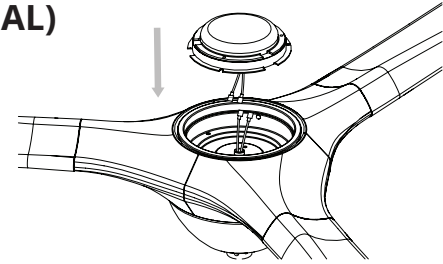

FIGURE 18
Wall control to wall outlet box electrical connections: (Fig. 18)
6. Secure the glass shade to fan by turning glass clockwise until snug. Do not over tighten (Fig 18).